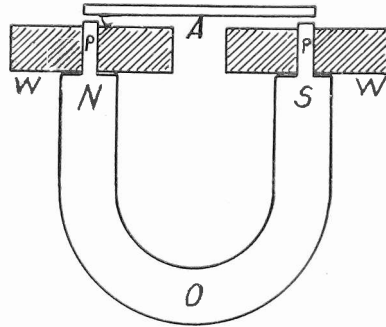

FIG. 2
This shows a simplified form of the type of unit illustrated in Fig. 2. A single spool (W) is wound around the pole piece (p), at upper right.
The other or "bipolar" type of electromagnetic driver is shown in Fig. 2. A permanent magnet (NOS) maintains a strong permanent magnetic field. Pole pieces (pp), around which coils (WW) of fine wire are placed, project from the poles of the magnet. As a varying electric current is passed through the spools the permanent field is alternately weakened and strengthened and this produces a correspondingly varying pull to be exerted on the armature (A) placed near the pole pieces.